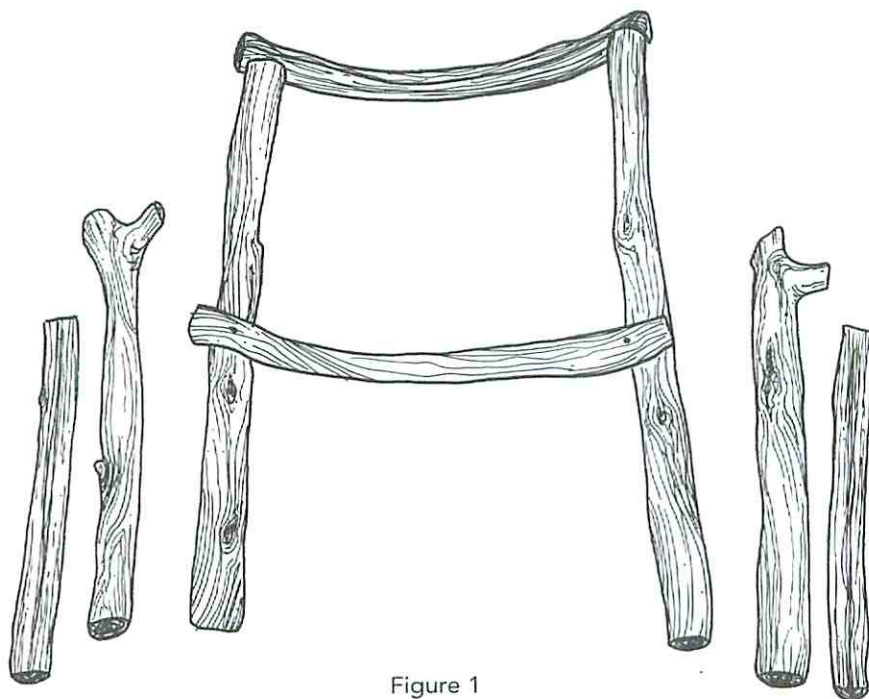

Figure 1
Next we assemble the back part of the chair. Gather together the pieces for your back legs (C) and back supports (D). If you haven't mirror-cut the piece for the back support yet, there's no time like the present to get it done. Screw one of the back support pieces to the top of the back legs, flat side down. The second back support piece should be screwed to the front of the back legs about 24" from the base. See Fig. 1.